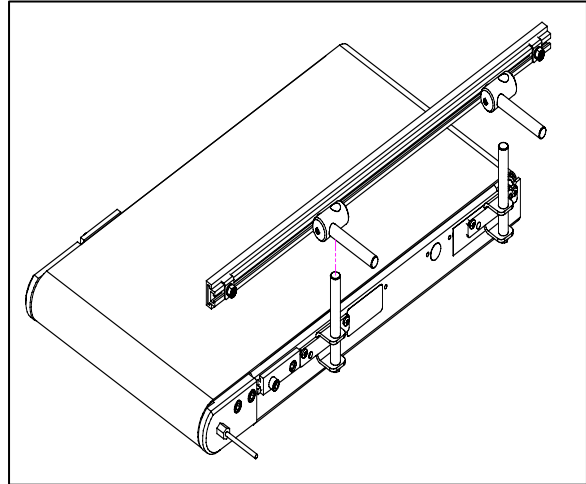

Figure 3
a. Install the Guiderail/Rod/Cross Block assembly over the vertical rods connected to the Guide Brackets, and secure them in place vertically (**Figure 3**).